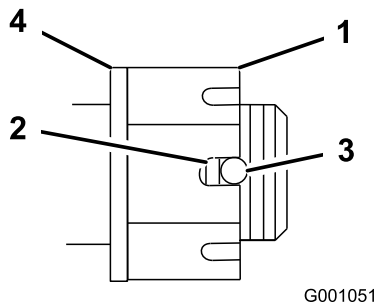

Figure 45
4. Torque the slotted nut to 125 ft-lb (170 N-m) (Figure 45).
5. Check the distance from bottom of slot in nut to inside edge of hole. Two threads or less should be showing (Figure 45).
7. Torque the slotted nut to 125 ft-lb. (170 N-m) (Figure 45).
8. Tighten the nut until the next set of slots line up with the hole in the shaft (Figure 45).